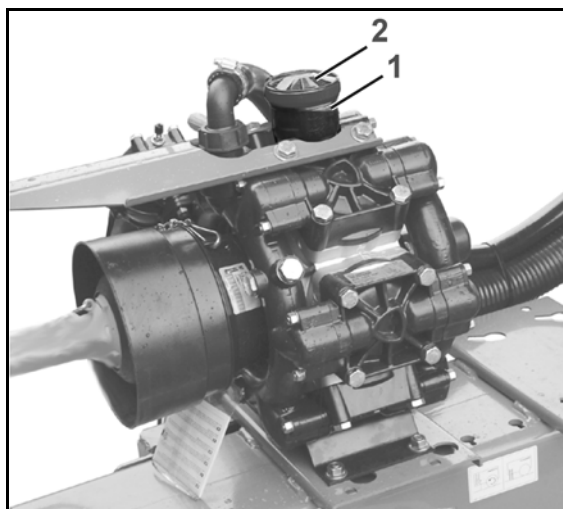

Fig. 188
1. Check whether the oil level is visible at the mark (Fig. 188/1) with the pump not running and standing on a flat surface.
2. If the oil level is not visible at the mark (Fig. 188/1), remove the lid (Fig. 188/2) and top up with oil.
2. Remove the lid (Fig. 188/2).
5. Turn the drive shaft left and right alternately and slowly fill with new oil. The right quantity of oil has been reached when the oil is visible at the mark (Fig. 188/1).